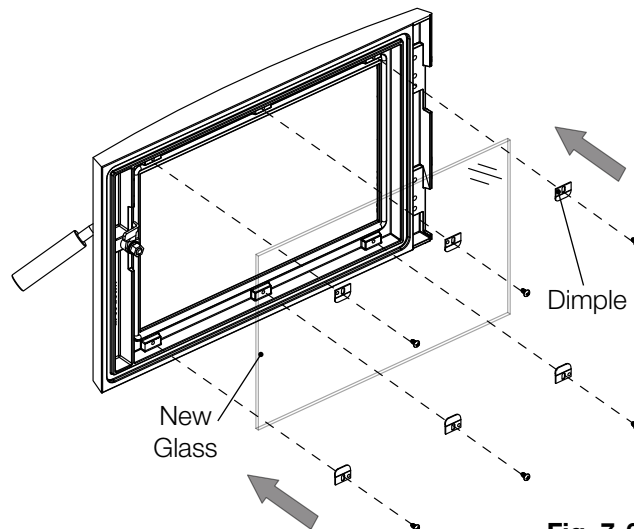

Fig. 7-3
7. Re-secure the 6 glass retainers by installing the 6 screws previously removed in step 2 (**Fig. 7-3**). Ensure the retainer dimples face away from the glass.